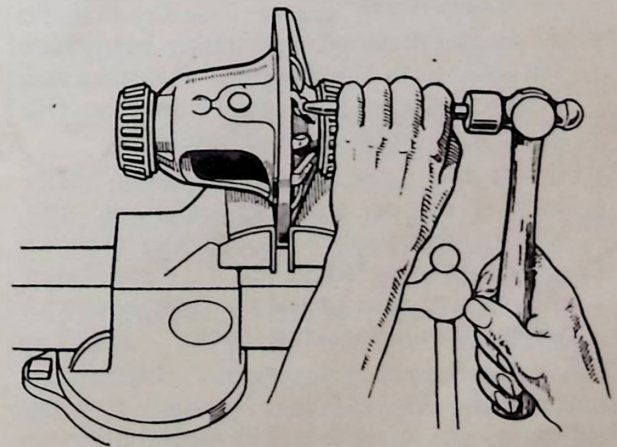

Fig. 20.
- (1) Bend down the tabs on the drive gear screw locking straps and remove the drive gear screws.
- (2) Remove the drive gear from the differential case by tapping with a rawhide mallet.
- (3) Using a small punch, drive out the pinion mate shaft locking pin, which is secured in place by peening the case, and remove the pinion mate shaft. Fig. 20 indicates direction in which the locking pin is removed ; it is not possible to drift the pin in the opposite direction.